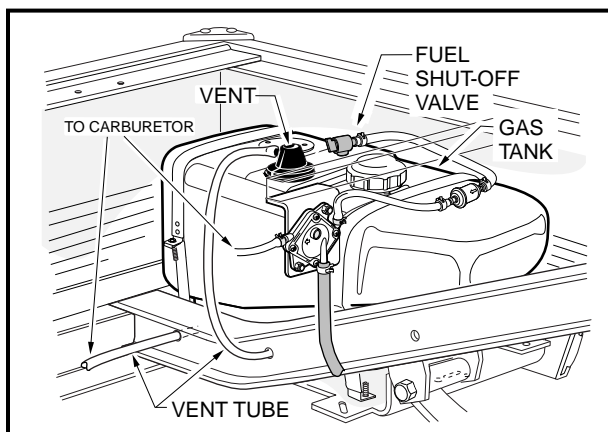

Figure 21 Fuel Tank
- **IF VEHICLE HAS AN ALL-WEATHER ENCLOSURE INSTALLED, THE GAS TANK MUST BE PROPERLY VENTED AS SHOWN (FIGURE 21, PAGE 31).**